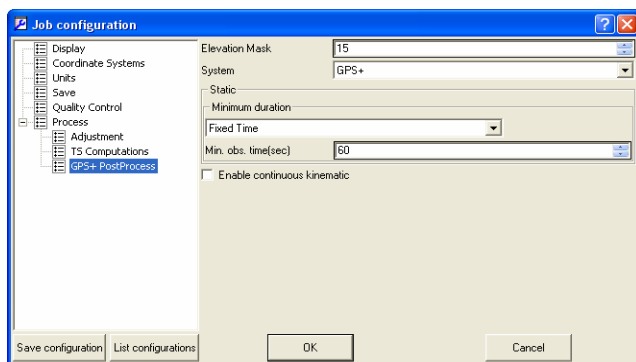

Figure 2-38. Job Configuration – GPS+ PostProcess
- The *GPS+ PostProcess* tab (Figure 2-38) sets the elevation mask, the navigation system, the minimum duration for station mode (Auto or Fixed Time), and enables/disables continuous kinematic.